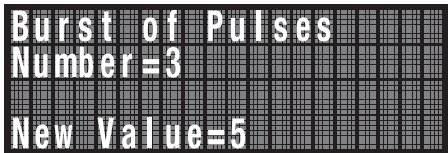
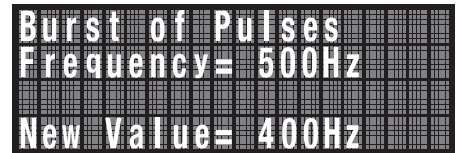
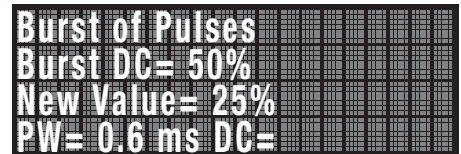

Fig. 6.19
Fig. 6.20
Fig. 6.21
4. Press the Duty Cycle key and use the arrow keys to set the desired number of pulses in the burst. Press the Enter key (see **Figure 6.19**). Use the arrow keys to set the pulse frequency. Press the Enter key (see **Figure 6.20**). Use the arrow keys to set the duty cycle of the pulse waveform, then press the Enter key (see **Figure 6.21**). Press the Volts key and use the arrow keys to set the output voltage, then press the Enter key. All three steps must be completed for any changes to be effected.